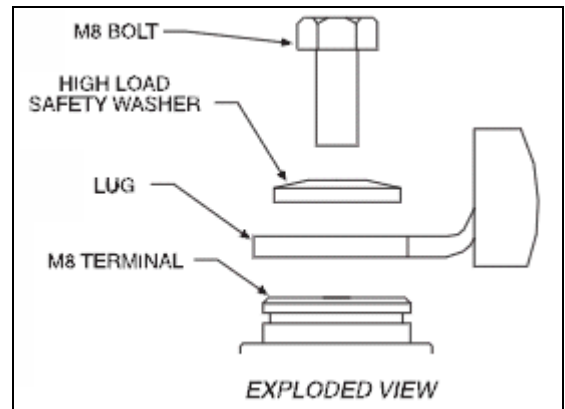

Figure 3-21: Cable Installation
9. Tighten cables connected to the high current terminals, identified on the controller housing as B+, B-, U, V and W to 90 +/- 1- in-lbs (10.2 +/- 1.1 Nm). See Figure 3-21. - for high current cables.